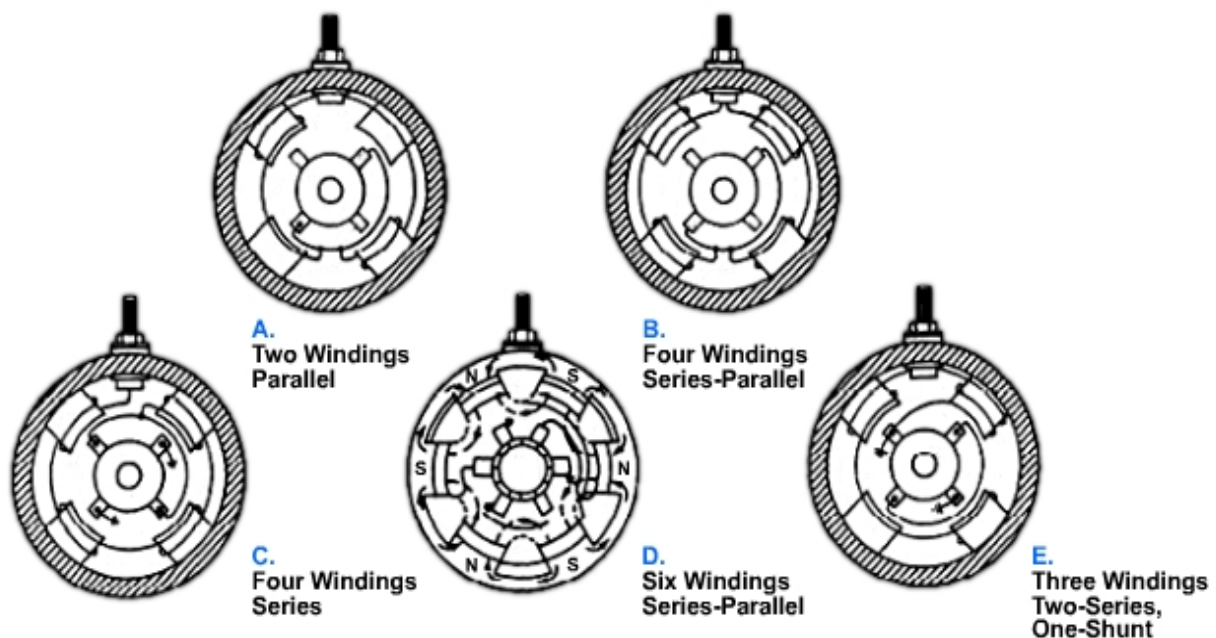

Figure 8-19 — Field winding configurations.
- The field frame is the center housing that holds the field coils and pole shoes. It is a stationary set of windings that creates a strong magnetic field around the motor armature. When current flows through the winding, the magnetic field between the pole shoes becomes very large. Acting against the magnetic field created by the armature, this action spins the motor with extra power. Field windings vary according to the application of the starter motor. The most popular configurations are as follows (*Figure 8-19*):